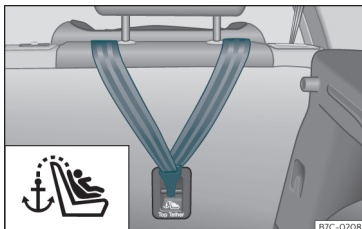

Fig. 28 Back of the rear seats: Top Tether securing rings.
- Slide the strap and secure it properly with the anchorage of the backrest»» **Fig. 28**.